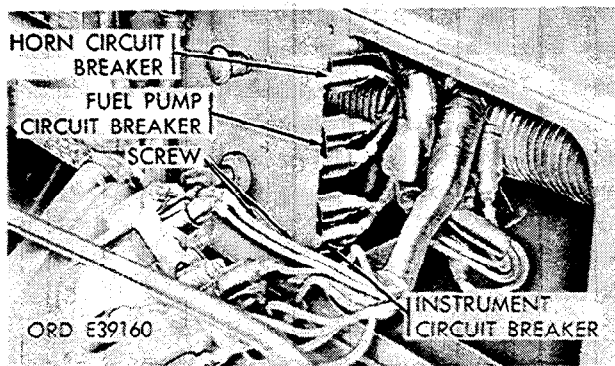

Figure 2-267. Remove circuit breaker.
(1) Remove instrument cluster (para 2-101) and remove speedometer cable housing from speedometer (para 2-108). Move cluster to left to provide access to circuit breakers.
(2) Separate the connectors at circuit breaker. Remove two screws, nuts, and lockwashers from each circuit breaker. Remove circuit breaker (fig. 2-267).